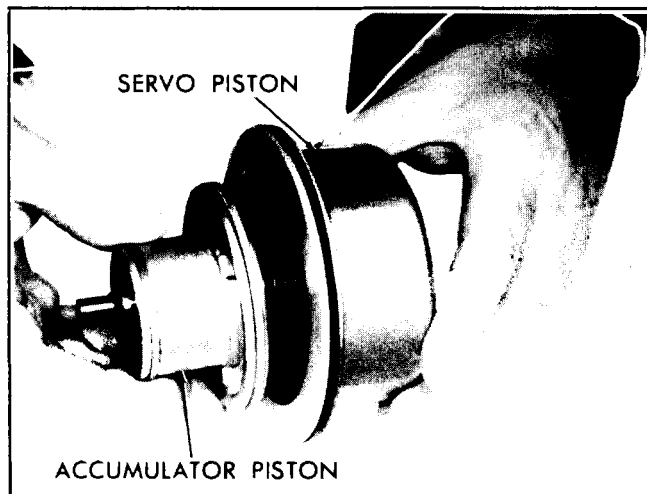

Fig. 7E-96 Removing Accumulator Piston From Rear Servo Piston
3. Remove rear servo piston and seal from band apply (servo) pin (Fig. 7E-98).